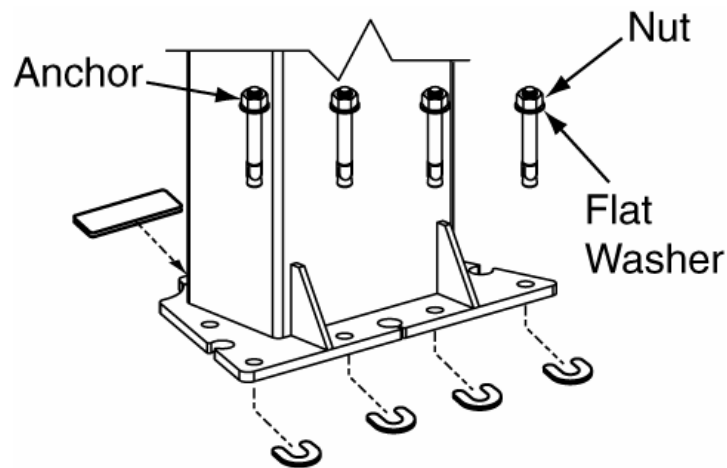

Figure 8
- F. Using a level, plumb the mainside leg both side to side and front to back. Shim the leg as necessary next to and on both sides of the anchor bolts, figure 8. If more than 1/2" of shimming is required, do not use the anchors and shims provided with the lift. Use longer anchors and fabricate larger shims from steel flat, 1/4" or 1/2" thick by 2", or more, wide.